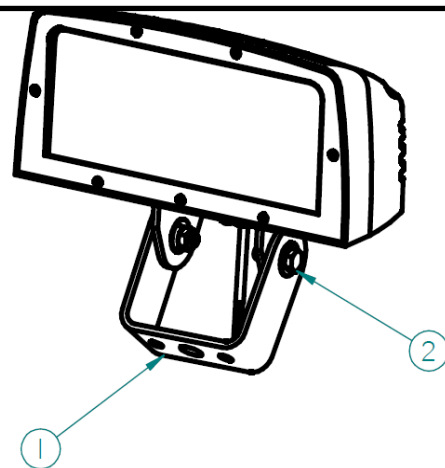

Fig. 1: Mounting the Fixture
- Use a minimum of two 3/8" diameter bolts or one ¾" diameter bolt for mounting (Item 1 in Fig. 1)
- Once fixture is aimed at the desired, target, tighten the bolts on each side of the yoke (item 2 in Fig. 1)